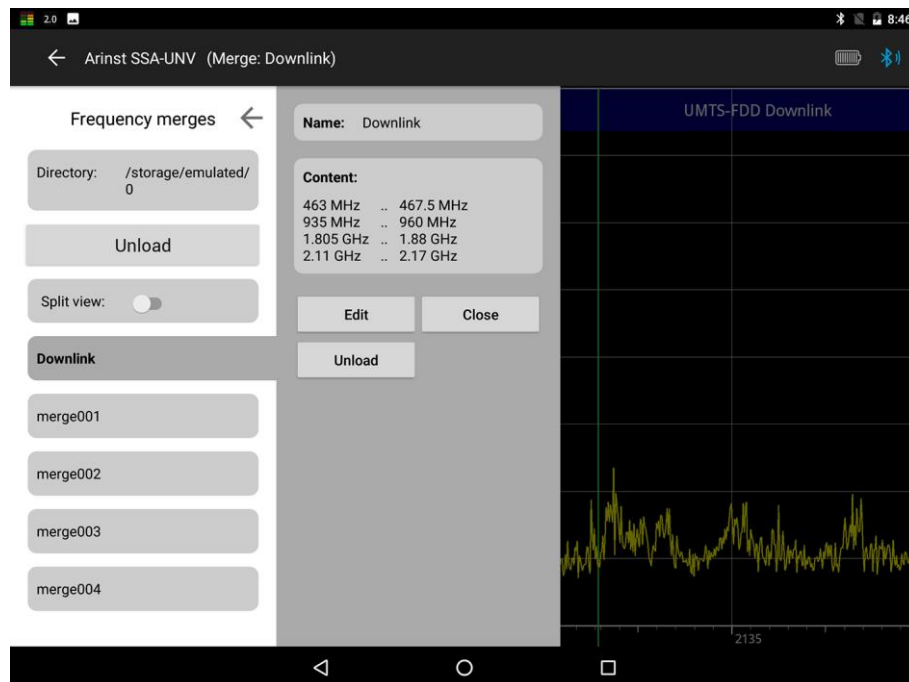
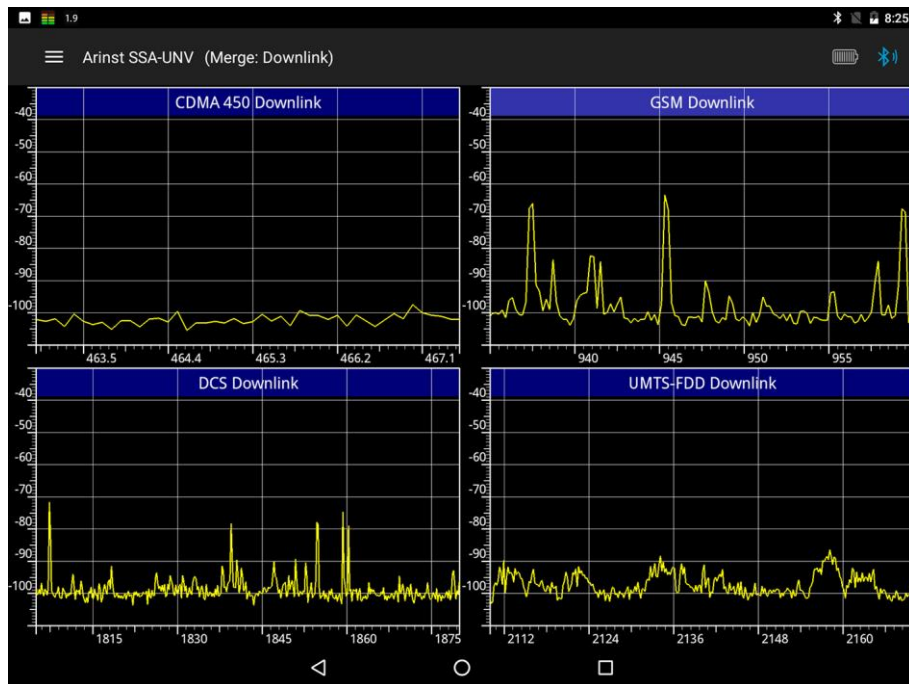

Figure 85 – Exit from the display mode of multiple frequency bands
Figure 86 – Display of frequency graphs from the list of ranges on the screen
9.5.7. To exit the range list display mode, slide your finger from left to right from the edge of the tablet / smartphone screen and in the **Frequency merges** menu that opens, in the active tab of the range list, click **Unload**, figure 85.
9.5.8. To display each range in a separate window, turn on the **Split view** option (figure 85). The screen of your tablet / smartphone will be divided into separate frequency band graphs, as in figure 86.